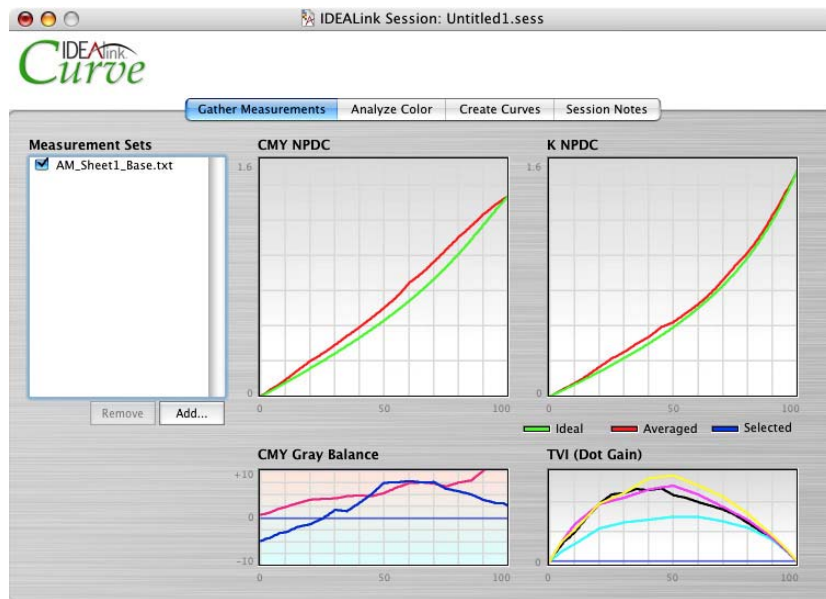
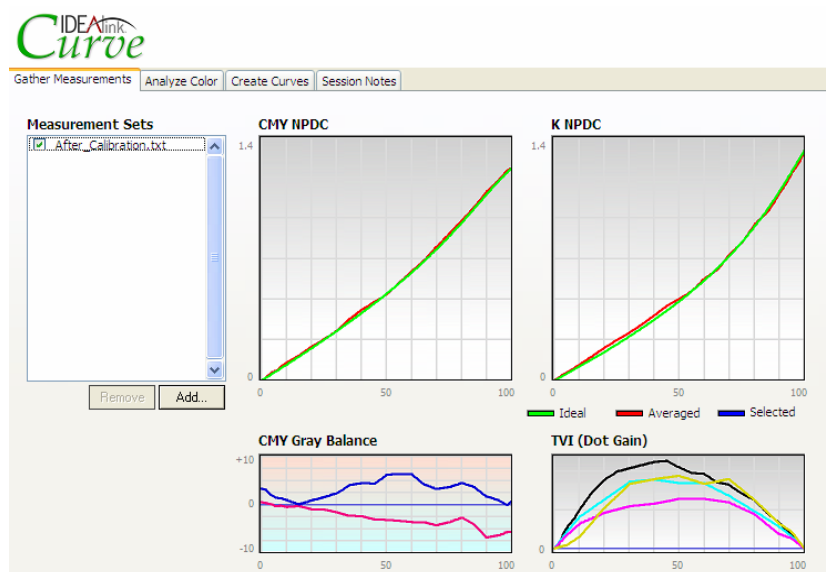

Figure 1.1 IDEALink Curve User Interface (Mac)
Figure 1.2 IDEALink Curve User Interface (Windows)
There are cosmetic User Interface (UI) differences between the Mac and Windows versions of IDEALink Curve, but functionality is identical on both platforms. The Mac interface is shown in *Figure 1.1*. The Windows interface is shown in *Figure 1.2*. Both UIs will be used throughout this documentation.